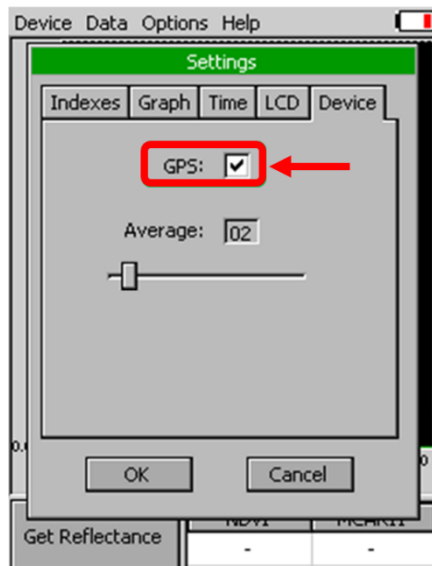

Fig. 41 Activation of GPS.
- Click on the check box for GPS (Fig. 41)